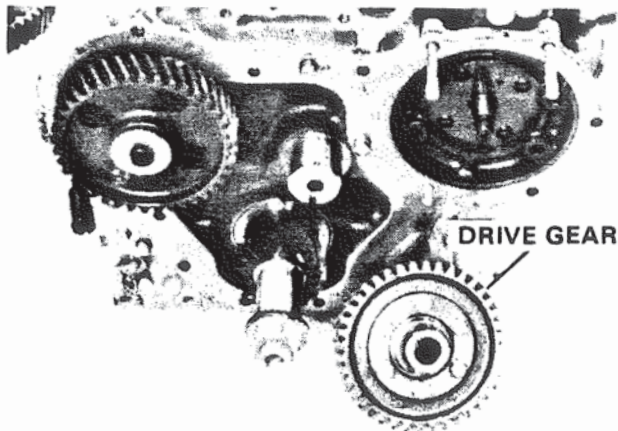

Figure 65. Assembling Drive Gear to Automatic Timer.
D. Place injection pump drive gear on back of automatic timer and secure with six (6) capscrews. Figure 65.